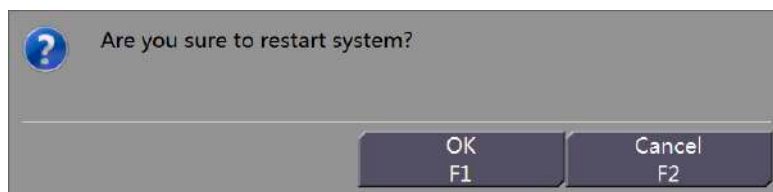

Figure 16-14 Interface for Restarting TIP Software
Step 1 In the main menu shown in Figure 13-1, click "Disable TIP" to bring up the interface for restarting software, as shown in Figure 16-14. Click "OK", and the software restarts.